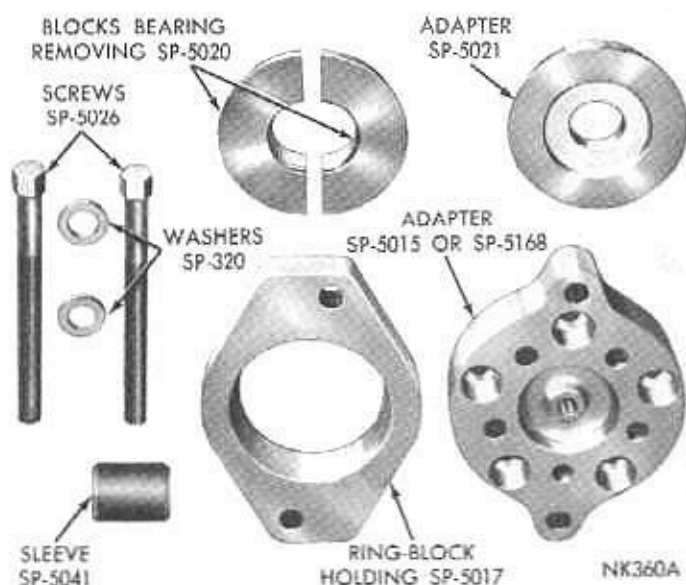
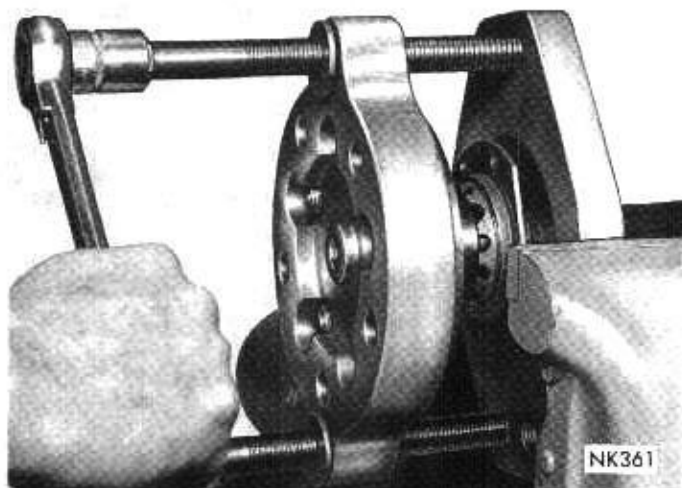

Fig. 2—Tool Set C-3971
Fig. 11—Removing Bearing Cone with Tool C-3971
(1) With wheels removed, remove clips holding brake drum an axle shaft studs and remove brake drum.
(2) Using access hole in axle shaft flange, remove retainer nuts, the right shaft with threaded adjuster in retainer plate will have a lock under one of the studs that should be removed at this time.
(3) Remove parking brake strut.
(4) Attach axle shaft remover Tool C-3971 (Fig. 2) to axle shaft flange and remove axle shaft. Remove brake assembly and gaskets.
(7) Remove the bearing cone using Tool C-3971 (Fig. 2). Tighten bolts of tool alternately until cone is removed (Fig. 11).
(8) Remove seal in bearing retainer plate and replace with new seal.